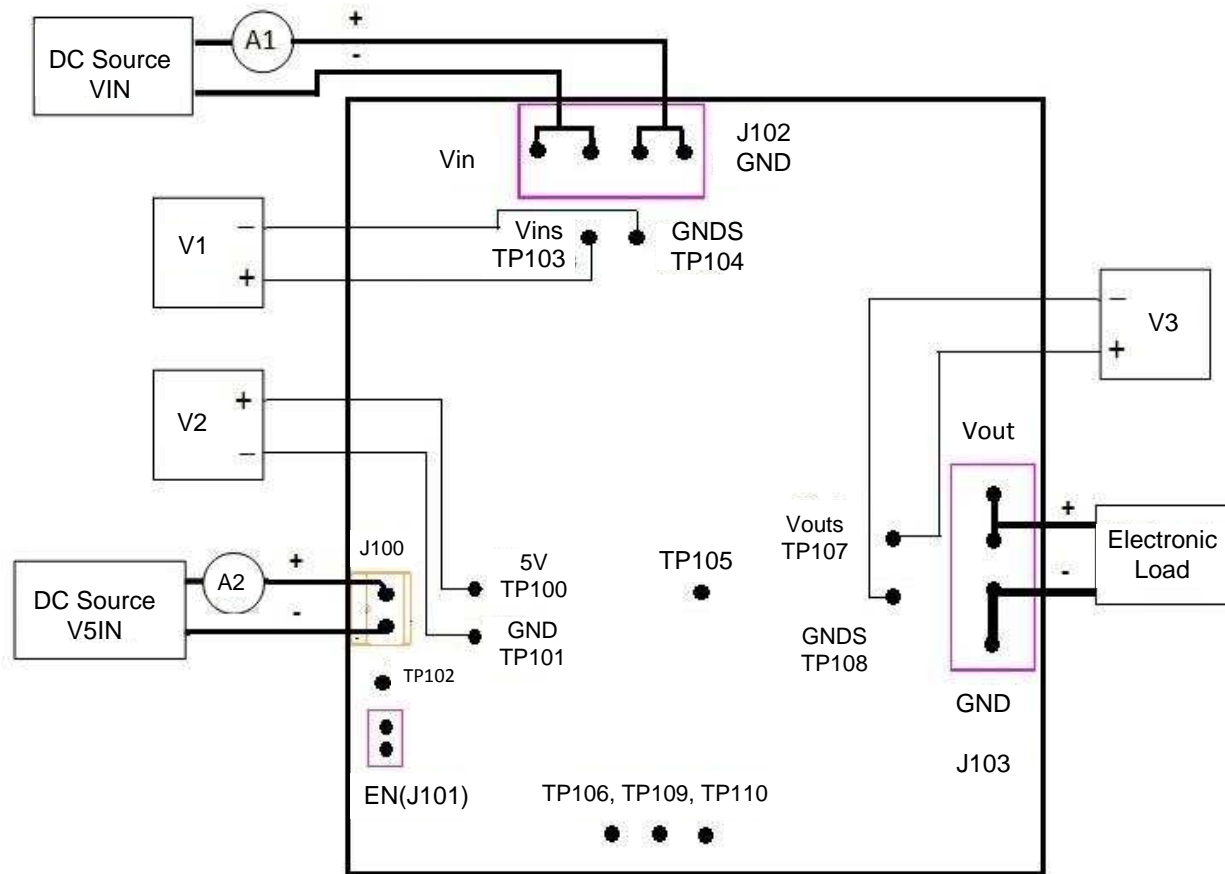

Figure 3. CSD87381PEVM-603 Recommended Test Setup
Voltage source VIN: The input voltage source VIN must be a 0-V to 20-V variable DC source capable of supplying 10 ADC. Connect VIN to J102 (as shown in Figure 3).
Voltage source V5VIN: The input voltage source V5VIN must be a 0-V to 5-V variable DC source capable of supplying 1 ADC. Connect V5VIN to J100 (as shown in Figure 3).
Figure 3 shows the recommended test setup to evaluate the CSD87381PEVM-603. Working at an ESD workstation, make sure that any wrist straps, bootstraps, or mats are connected. Reference the user-to-earth ground before power is applied to the EVM.
1. Prior to connecting the DC source VIN, TI recommends to limit the source current from VIN to 10-A maximum. Ensure that VIN is initially set to 0 V and connected (as shown in Figure 3).
2. Prior to connecting the DC source V5VIN, TI recommends to limit the source current from V5VIN to 1-A maximum. Ensure that V5VIN is initially set to 0 V and connected (as shown in Figure 3).
3. Connect a voltmeter, V1, at TP103 (Vins) and TP104 (GNDS) to measure VIN voltage, V2 at TP100 (5V), and TP101 (GND) to measure 5V voltage (as shown in Figure 3).